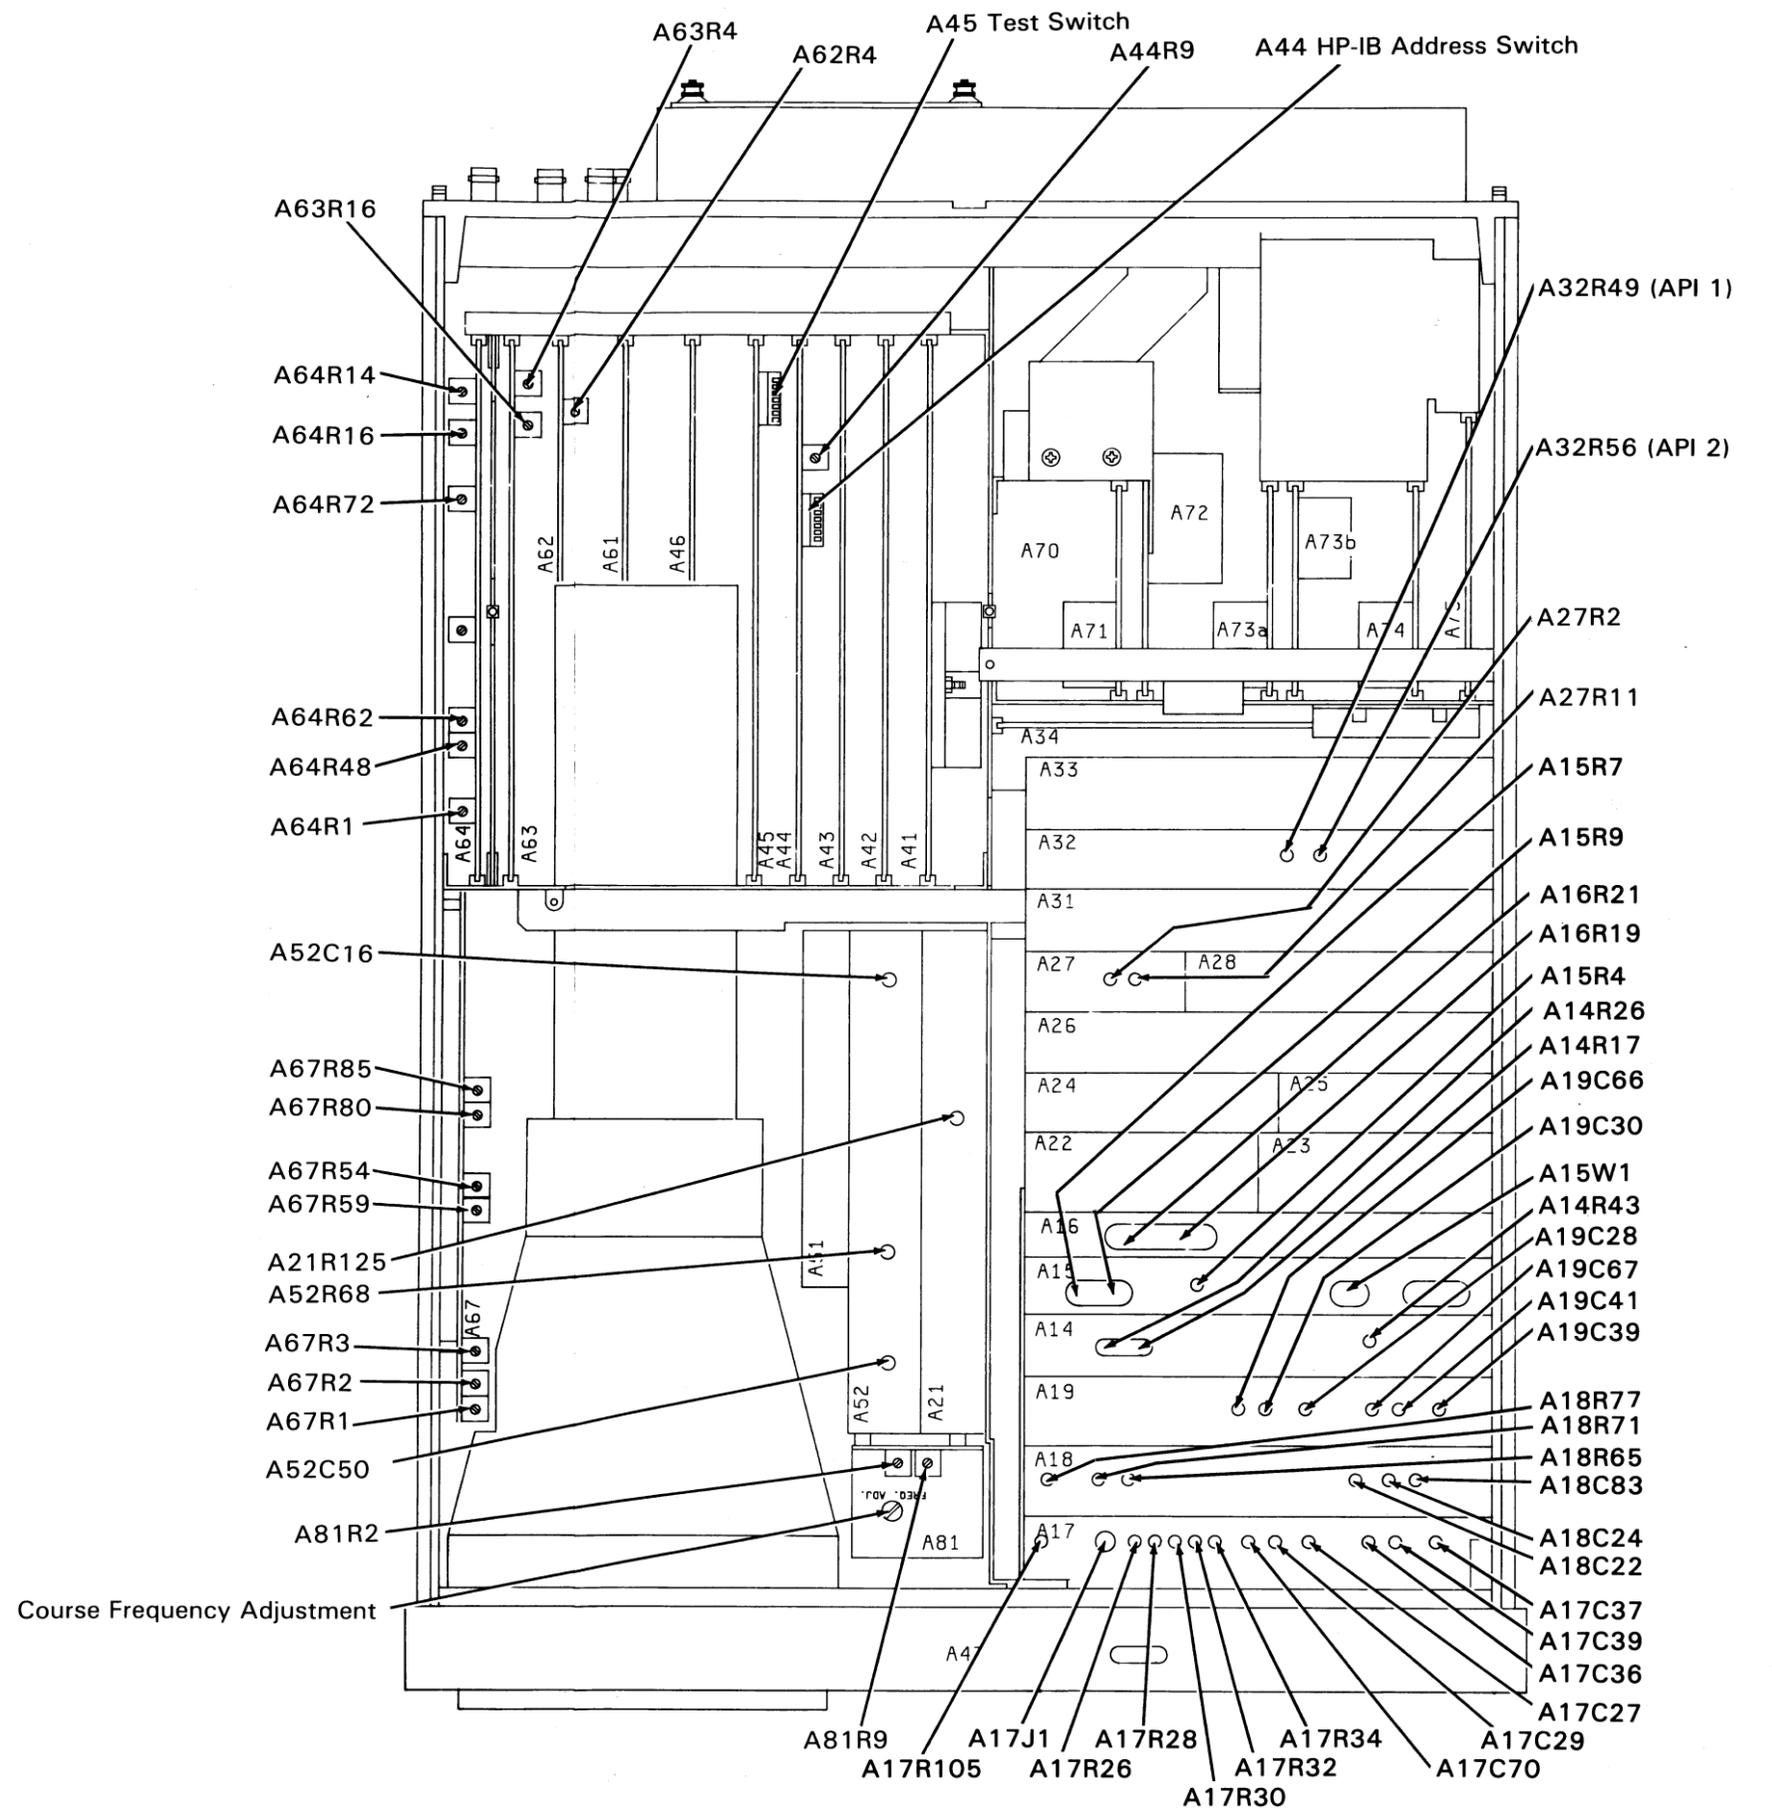

Figure 5-46. Top Of Instrument Adjustment Locations
- g. Adjust A44R9 (see Figure 5-46) for the voltage stamped on A44U16  $\pm 0.2V$ .
- b. Adjust A62R4 (see Figure 5-46) for a dc voltage reading of  $-10.24Vdc \pm 0.02V$ .